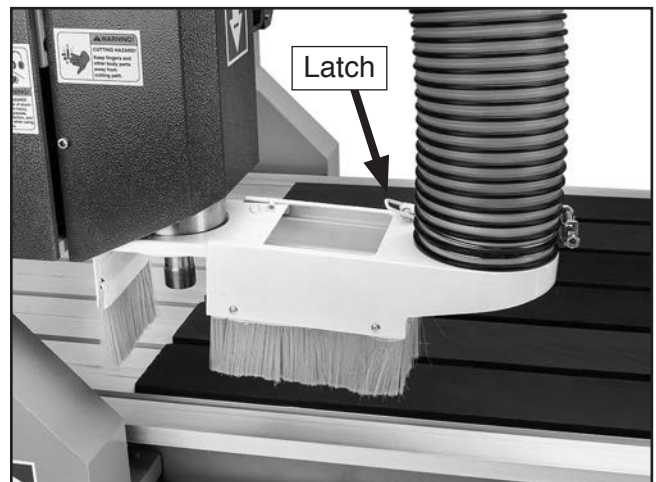

Figure 17. Dust shoe attached.
4. Slide dust shoe onto bracket (see **Figure 17**) and secure in place with latch.